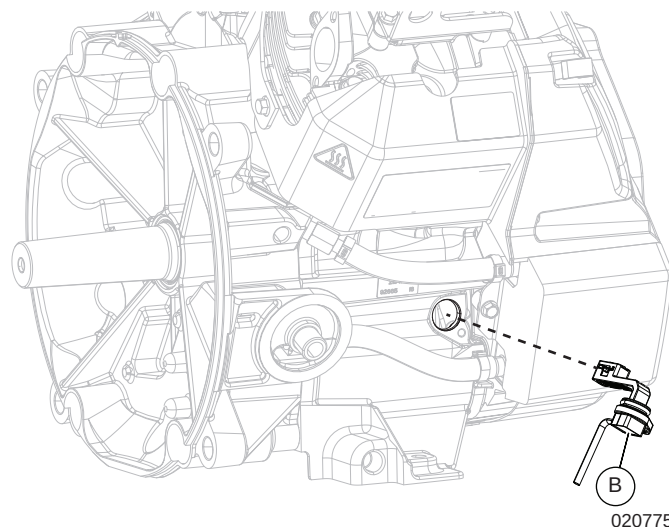

Figure 6-18. Remove Switch From Port
2. See Figure 6-18. Carefully rotate and guide oil level switch (B) from port.